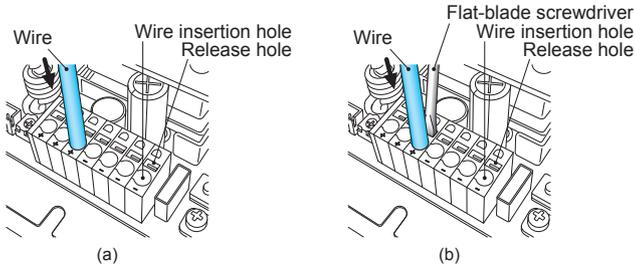
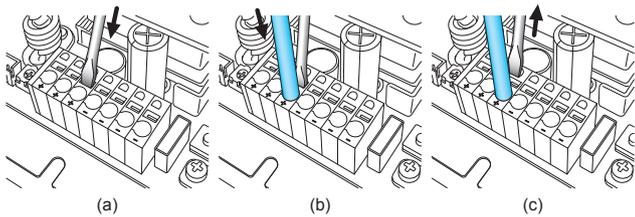
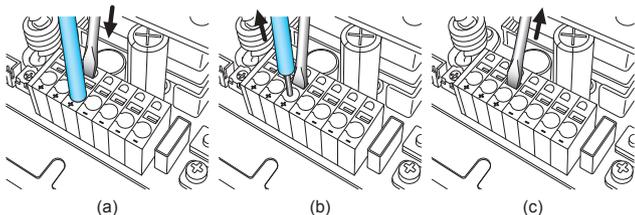

Fig.7.7 Connecting method of Ferrule terminal and Solid wire
Fig.7.8 Connecting method of Stranded wire
Fig.7.9 Releasing method of Ferrule terminal, Solid wire and Stranded wire
· Fig.7.7, fig.7.8 and fig.7.9 is the how to connect/release the wire.
(Refer to the fig.7.7 (a).)
(Refer to the fig.7.7 (b).)
(Refer to the fig.7.8 (a).)
(Refer to the fig.7.8 (b).)
(Refer to the fig.7.8 (c).)
(Refer to the fig.7.9 (a).)
- Step2: Remove the wire with the flat-blade screwdriver inserted in the release hole. (Refer to the fig.7.9 (b).)
(Refer to the fig.7.9 (c).)